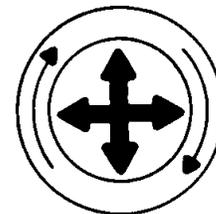

FIGURE 7-4
- a. **RELEASE THE SEAL GENTLY.** The filter element (Figure 7-4) fits tightly over the outlet tube, creating the critical seal on the inside diameter of the filter end cap. The filter should be removed gently to reduce the amount of dust dislodged. There will be some initial resistance, similar to breaking the seal on a jar. Gently move the end of the filter up and down and side to side or twist to break the seal.